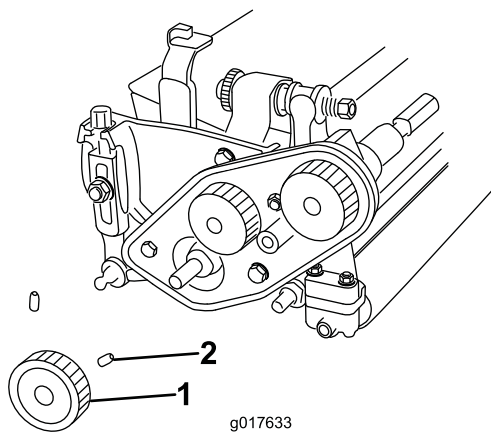

Figure 4
9. Loosen the 2 set screws securing the lower pulley and remove the pulley from the reel shaft (Figure 4).
23. Install the lower pulley onto the reel drive shaft, securing it with the 2 set screws onto the key on the shaft (Figure 4).